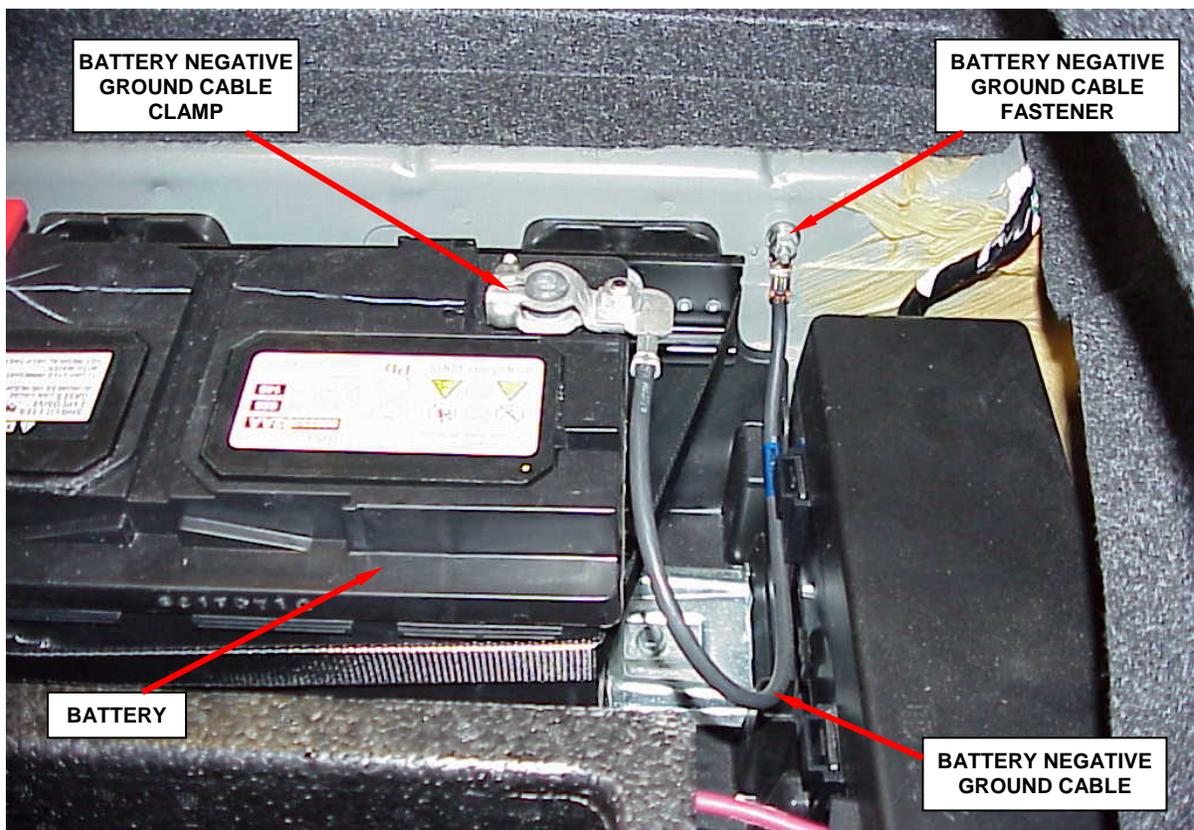

Figure 1 – Battery Negative Ground Cable
- c. Disconnect and isolate the battery negative ground cable clamp (Figure 1).
- d. Remove the fastener securing the battery negative ground cable to the body (Figure 1).
- m. Connect the battery negative cable clamp to the negative battery post (Figure 1).